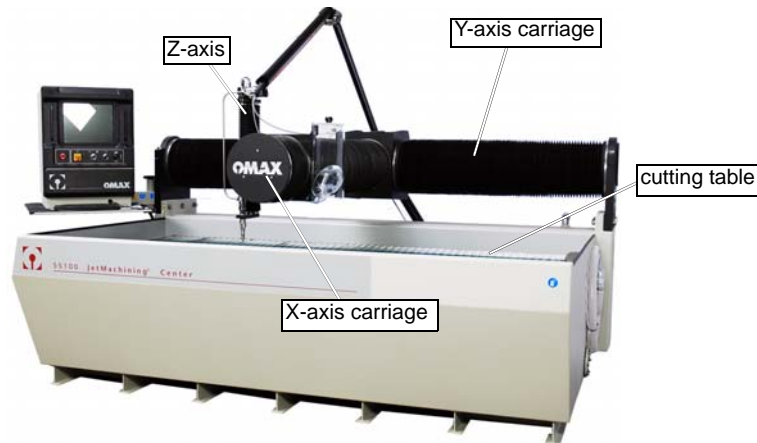

Figure 2-10: X-Y Carriage Components of the JetMachining Center Models 2626, 2626|xp, 2652, 5555, and 55100 (illustrated)
- **X- Y and Z-axis motion system** (Figure 2-10, page 2-6)
The precision X- Y-axis motion system installed on OMAX models 2626, 2626|xp, 2652, 5555, and 55100 consists of a bridge X-axis and a cantilever Y-axis rigidly mounted to the cutting table (see Figure 2-10). Both X and Y carriages ride on rigidly mounted linear rolling bearings. The carriages are moved by preloaded ball screws driven by steel reinforced timing belts from brushless digital servo motors that provide position feedback. Each step command to a servo amplifier moves the carriage approximately 0.0005" (0.013 mm).